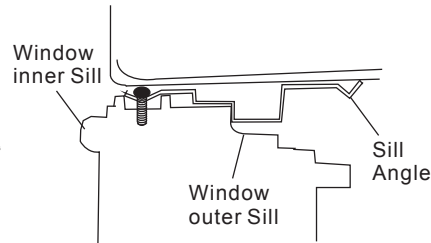

Fig. 12
2. Place cabinet in window with bottom sill angle firmly seated over window sill as shown. Bring window down temporarily behind top angle to hold cabinet in place (Fig. 12).
Step 2. Remark a line on the provided R1 insulation panel according to a length $1/8$ " (3mm) less than the measured width in step 1, then cut the R1 insulation panel along the line (Fig. 12).